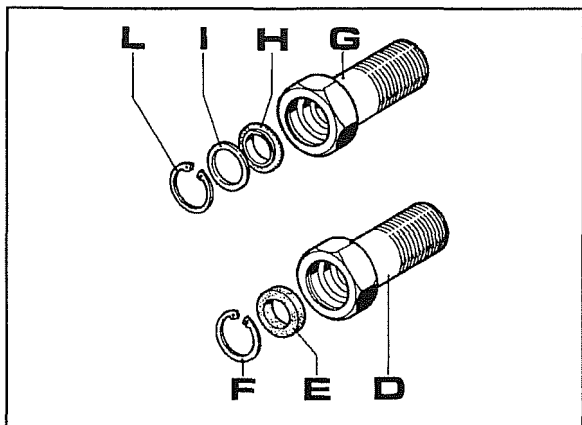

Fig. 5
6. If the seal ring **H** is the Combi model illustrated in Fig. 5, replace it with a new one. If it is a traditional type of seal ring **E** illustrated in Fig. 5 its seal performance will have to be upgraded by replacing parts **D-E-F** with parts **G-H-I-L**.